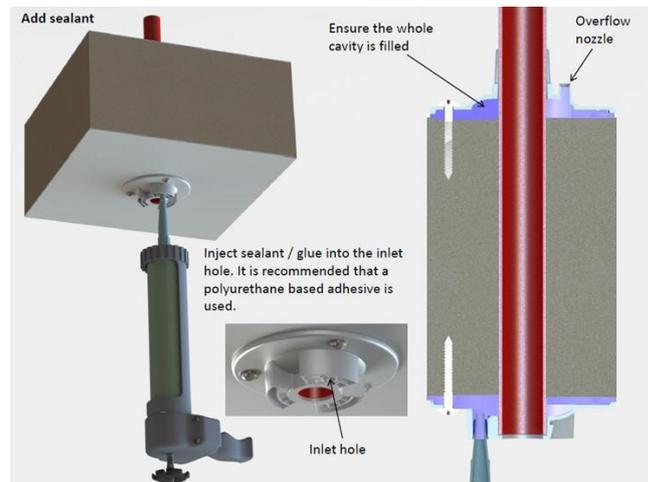

Figure 4: Applying sealant
6. Insert the sampling pipe (330mm (1ft) in length approximately) into the hole with the aid of spring fingers to retain the pipe in the hole. Clean the surface and secure the flange to the sandwich panel using three (3) of the self-tapping screws provided.
7. Mount the lower flange on the bottom of the hole (inside the temperature controlled room). Clean the surface and secure the flange using the remaining three (3) self-tapping screws provided.
8. Ensuring all surfaces are clean and dry, apply sealant (a polyurethane based adhesive recommended) through inlet holes on both top and bottom flanges, see Figure 4.